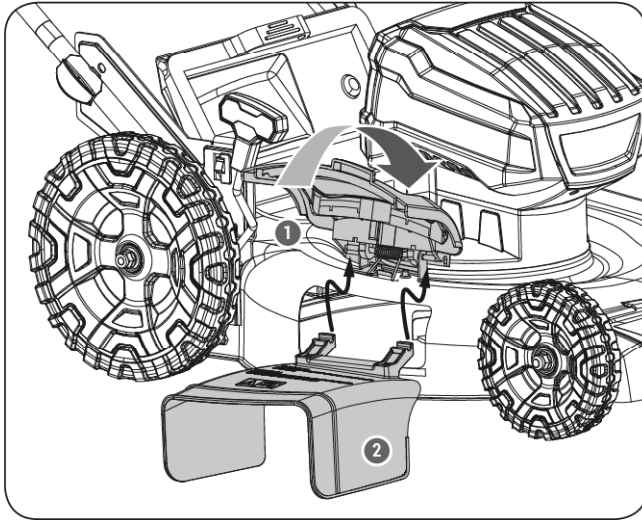

Figure 3
1. Lift the mulch cover on the side of the mower. (See *Figure 3, illustration 1*)
2. Slide the two hooks of the side discharge cover under hinge pin on mulch cover assembly. Lower the mulch cover. (See *Figure 3, illustration 2*)